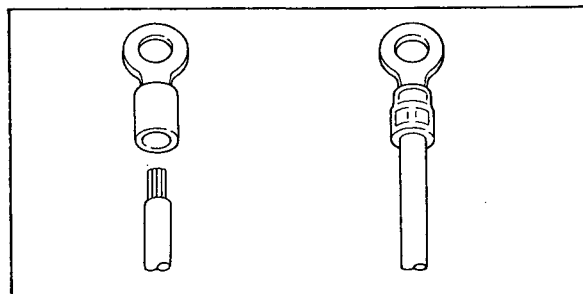

Figure 3-2. Solderless Crimp-on Lugs.
- (1) When connecting external wires, furnish the cable ends with solderless crimp-on lugs (for 4 mm screws). See Figure 3-2.